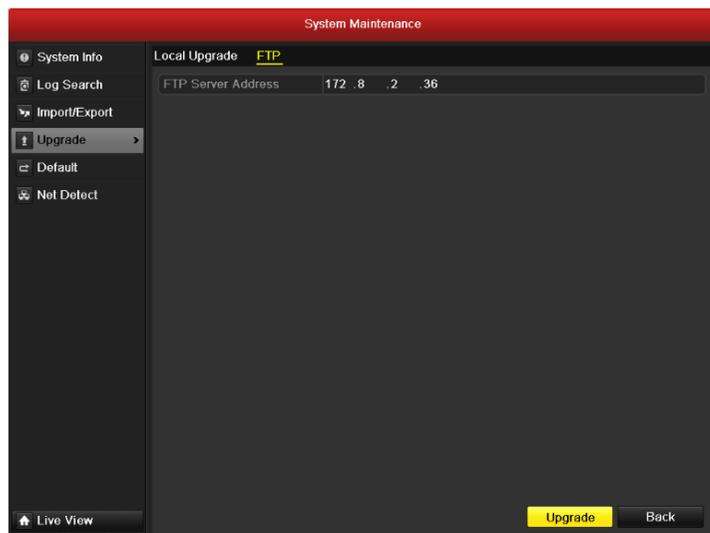

Figure 14.13 FTP Upgrade Interface
2. Click the **FTP** tab to enter the local upgrade interface, as shown in Figure 14.13.